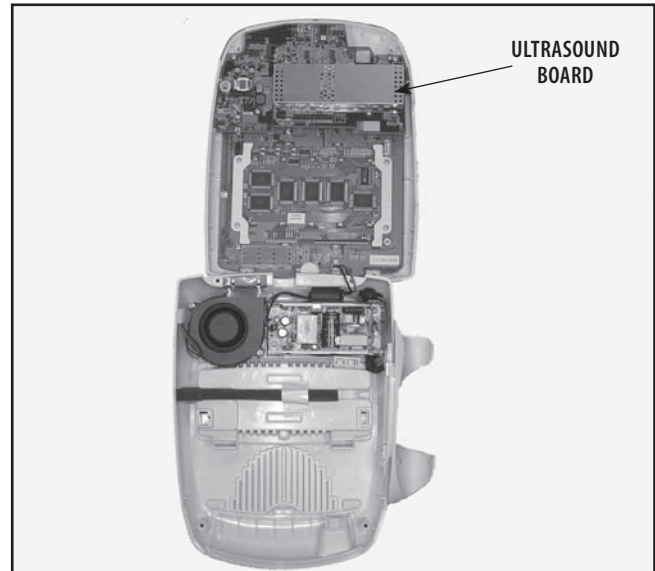

FIGURE 5.2
2. Disconnect the Power Supply Harness from the Control Board. Lay the unit open. **Refer to Figure 5.2.**